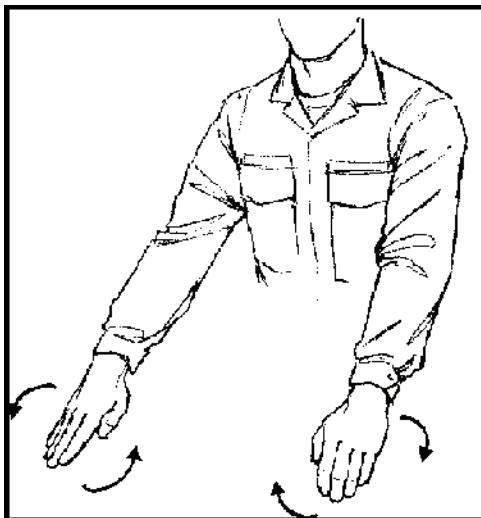

Figure 3-12. Alternate arm-and-hand signal for POSITION.
- **Alternate signal** (Figure 3-12). The rappel master extends both arms to the front with elbows locked, fists clenched, and index fingers extended. He bends at the waist so his arms are below his waist and makes a circular motion with arms rotating in opposite directions.